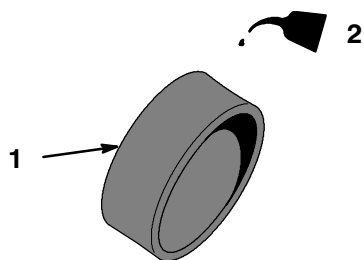

Figure 26
- Saturate the element with clean engine oil (Fig. 26), squeeze out the excess oil, then wrap it in a clean rag and squeeze it as dry as possible. Be careful not to tear the element.